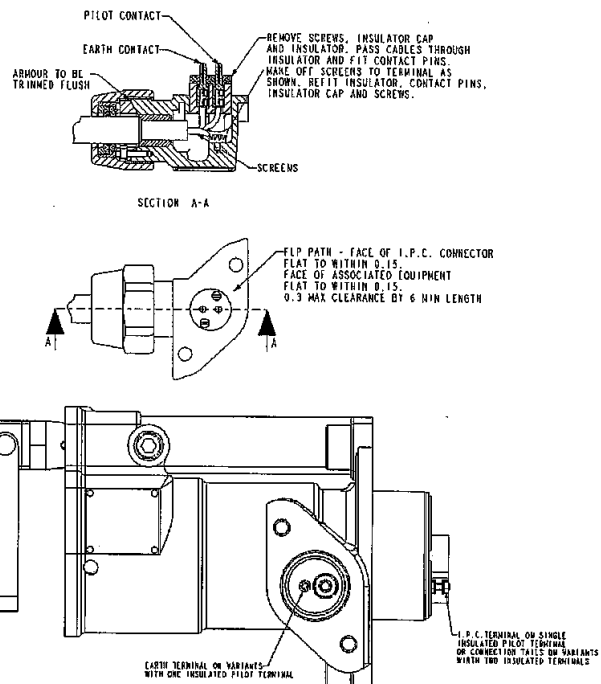

Fig.6. RESTRAINED SOCKET WITH I.P.C.
1. The I.P.C. (Interrupted Pilot Circuit) Restrained Sockets are for use on pilot control systems. There are two basic types available, the Type A41SR/A with one insulated pilot terminal and one direct earth terminal on the gland outlet, and the Type A41SR/B has two insulated terminals on the gland outlet, and has two loose connection tails at the socket spigot, see Fig.6. **Important-** when connecting associated equipment, ensure that the terminals are connected to the earth or pilot as required by the particular system.